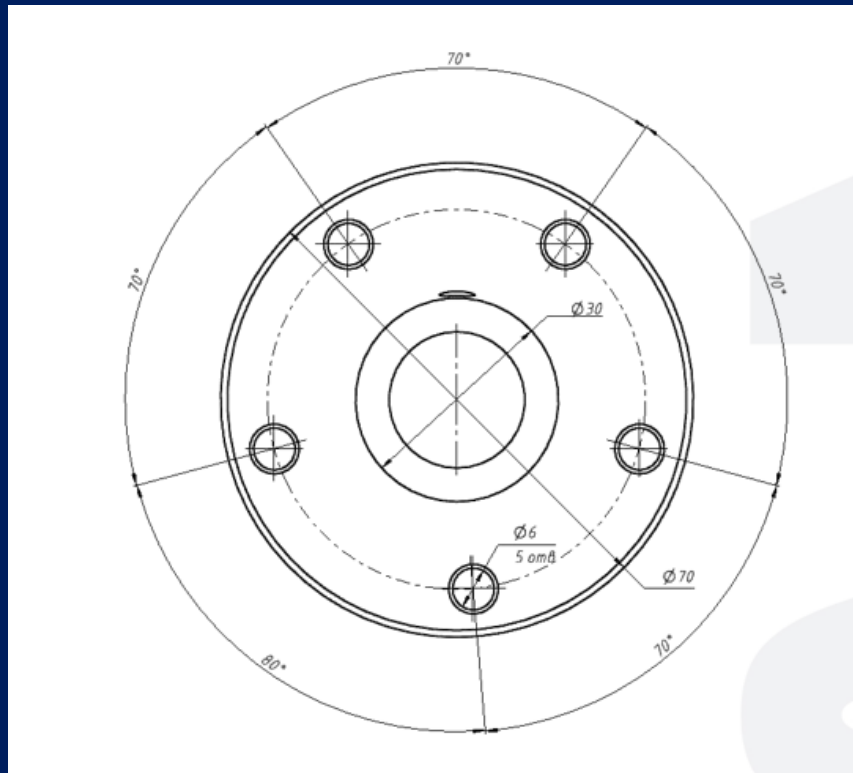

Figure 4 - Dimensional view of the bottom of the transducer head
2. Drill a center hole with a diameter of 32 - 35 mm for mounting the sensor, according to Figure 4